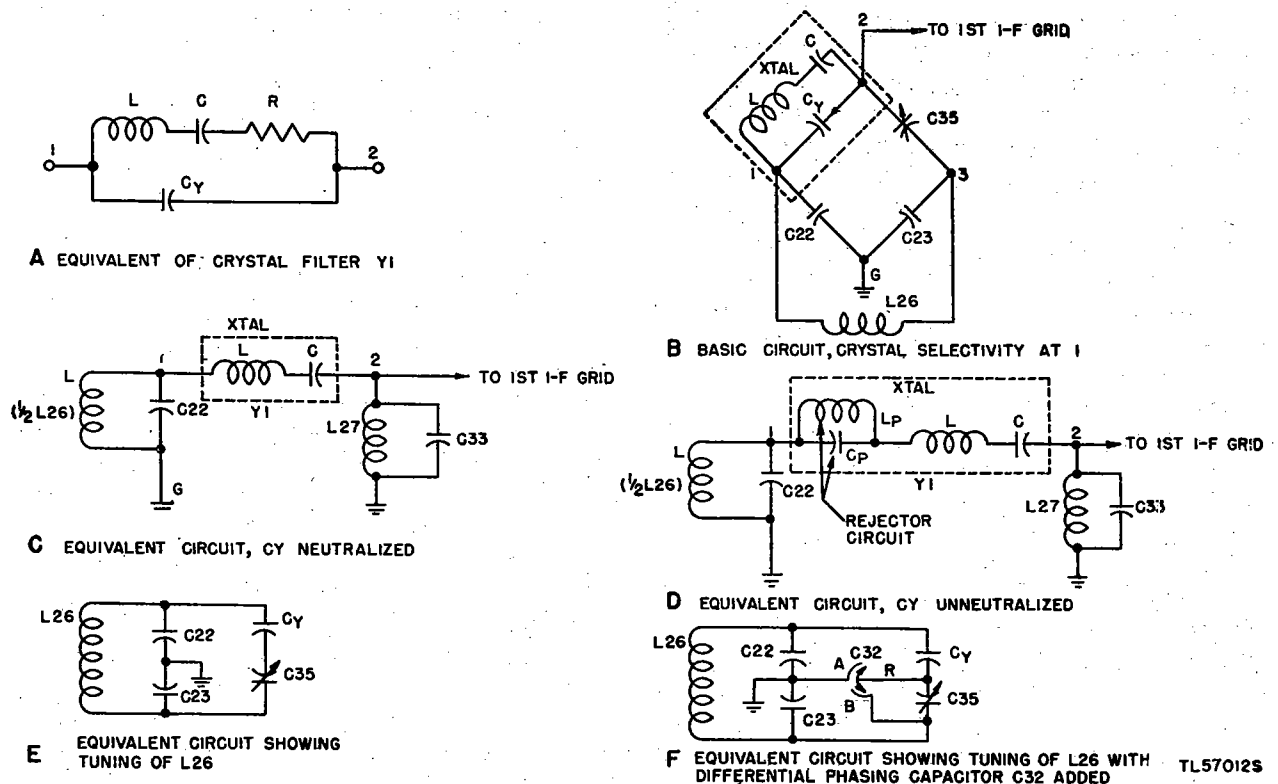

Figure 28. Radio Receiver BC-779-B, functional and equivalent diagrams of crystal filter circuit.
(4) Refer to appendix III for circuit details of Improvement Kit MC-531.
61. Crystal Filter (fig. 28)
a. EQUIVALENT CRYSTAL CIRCUIT. The equivalent electrical circuit of a crystal is shown in "A," figure 28. The circuit, and hence the crystal, are resonant at two frequencies: The frequency at which the reactance of L is equal to the reactance of C (series resonance), and the frequency at which the effective reactance of L-C (in series) is *inductive* and *equal* to the capacitive reactance of C_X (parallel resonance). At the series-resonant frequency the crystal acts as a low-impedance connection between 1 and 2. At the parallel-resonant frequency the crystal acts as a high impedance between 1 and 2.
b. BASIC FILTER CIRCUIT ("B," fig. 28). Capacitors C22 and C23 (100 mmF each) are connected in series across the secondary of i-f input transformer L26, and their junction is grounded to provide a midpoint connection in the resonant circuit L26-C22-C23. Consequently, the capacitor voltages are always of equal amplitude but 180° out of phase. Phasing capacitor C35 (1.5 to 5 mmF) is connected between 3 and 2, and the crystal is connected between 1 and 2.
c. NEUTRALIZATION OF C_X . Capacitors C22, C23, C35, and C_X (the capacity between the crystal holder plates) form a capacity bridge; the input is applied to 1 and 3, the output is taken from 2 and G. When capacitor C35 is adjusted so that its capacitance is equal to that of C_X , the voltage coupled from 3 through C35 to 2 is equal and opposite to the voltage coupled from 1 through C_X to 2. Under this condition C_X is neutralized and the crystal acts as a series-resonant circuit only ("C," fig. 28). Since the crystal is resonant at the intermediate frequency, there is (in effect) a direct connection between 1 and 2. As indicated in "C," figure 28, only the voltage across C22 (one-half the secondary voltage) is applied through the crystal to the grid circuit of the first i-f stage.
tance of $L-C$ and the capacitive reactance of C_Y . For simplicity the parallel-resonant circuit is denoted as rejector circuit $L_P C_P$ in "D," figure 28. L_P and C_P denote the effective inductance and capacitance at the parallel-resonant frequency. L and C indicate the effective inductance and capacitance of the crystal at the series-resonant frequency, in this case the 465-kc i.f. In other words, unless C_Y is neutralized, the crystal acts simultaneously as a parallel- and series-resonant circuit. The parallel-resonant circuit $L_P C_P$ has no effect on the 465-kc i.f. but presents a high impedance to, and therefore rejects, the frequency to which $L_P C_P$ is resonant. L and C present extremely low impedance to the 465-kc i-f signal voltage and high impedance to voltages at different frequencies. *With underneutralization the resonant frequency of $L_P C_P$ is higher than 465 kc.*
f. CAPACITOR C32. Capacitor $C35$, in series with capacitance C_Y , is across $L26$ and affects its tuning ("E," fig. 28). To avoid the detuning effect and to enable shifting the rejection frequency to either side of the i.f., differential PHASING capacitor $C32$ ("F," fig. 28) is used in the radio receiver. Stator sections A and B are so arranged that, as rotor R is turned out of one stator into the other, the capacitance of the first decreases by the same amount that the capacitance of the second increases. Thus, whether the rotor is entirely engaged in stator A, is at a midpoint, or is entirely in stator B, the effective capacitance across A-B, and therefore across $L26$, remains constant. Assume that $C32$, the PHASING capacitor, is set at the arrow position of the PHASING control on the front panel and
(2) *CRYSTAL SELECTIVITY switch at 1.* When CRYSTAL SELECTIVITY switch SW7 is placed at 1, the short is removed from the crystal. If the secondary of L26 and the parallel-resonant grid circuit, L27-C33, are tuned to 465 kc, each is the equivalent of a high resistance in series with the equivalent series-resonant circuit of the crystal ("C," fig. 28). Consequently, the Q and therefore the selectivity of the series-resonant (crystal) filter circuit is reduced, and the bandwidth is several kilocycles wider than that of the crystal alone.